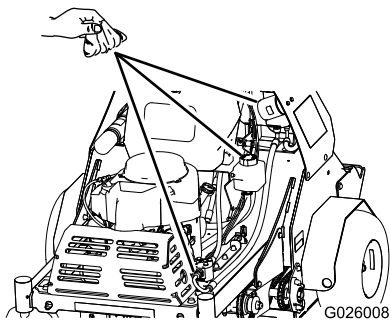

Figure 61
- Carefully clean area around the front of the auxiliary pump, fill cap for the reservoir, and filter (Figure 61).